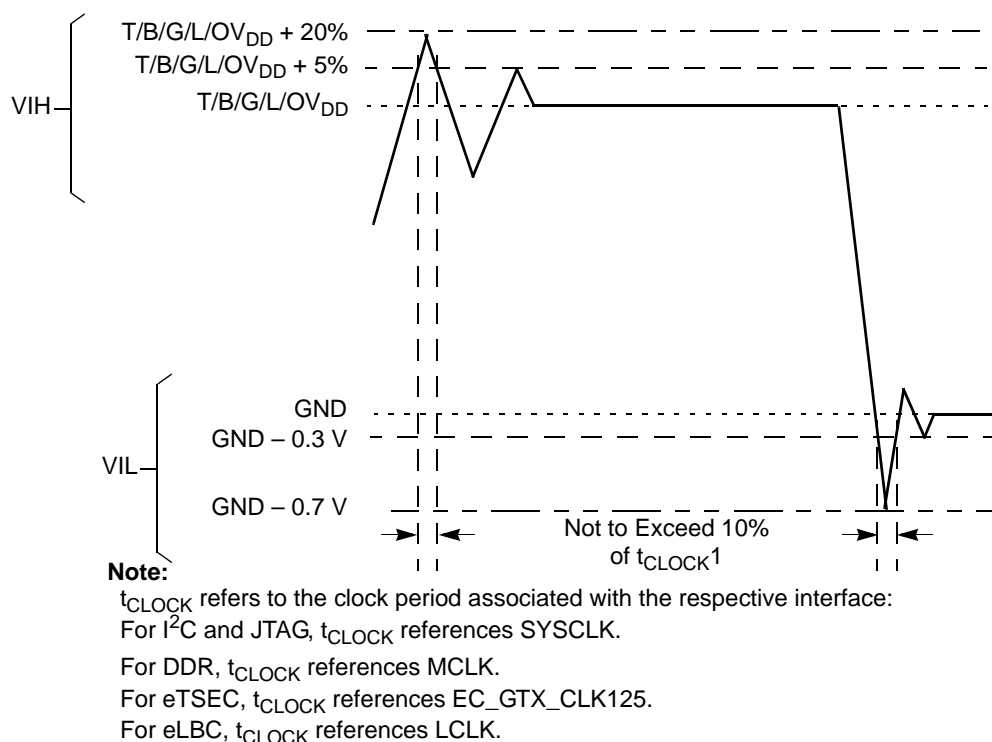

Figure 2. Overshoot/Undershoot Voltage for TV_{DD}/BV_{DD}/GV_{DD}/LV_{DD}/OV_{DD}
- (M,L,O) V_{IN} may overshoot/undershoot to a voltage and for a maximum duration as shown in Figure 2.
Figure 2 shows the undershoot and overshoot voltages at the interfaces of the MPC8572E.